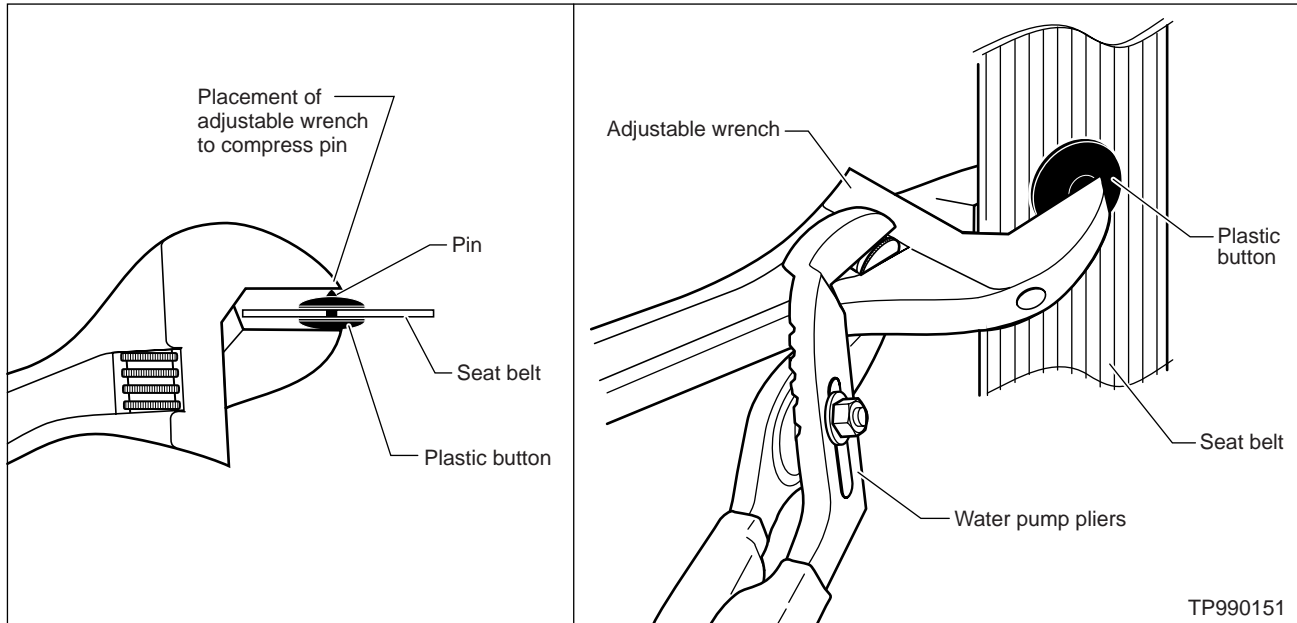

Figure 4 – Using wrench and pliers to compress the latch plate retaining button
6. Use an adjustable wrench with smooth jaws. Place it as shown in Figure 4, then finger tighten the jaws.
7. Using waterpump pliers, tighten the adjustable wrench. Compress the button to approximately 0.2 in. (5.4-5.8 mm) thickness (see Figure 4).